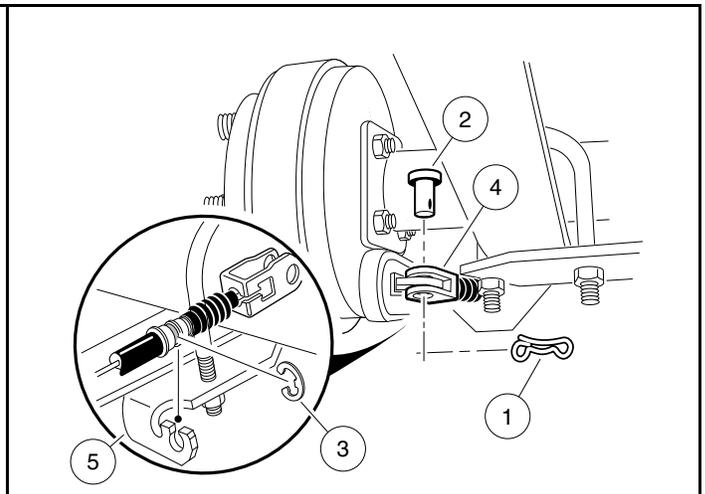

Figure 28-7 Brake Cables
5. Remove the bow tie pins (1), brake cable clevis pins (2), and cable retaining E-clips (3). Disconnect the brake cables (4) (**Figure 28-7, Page 28-5**).